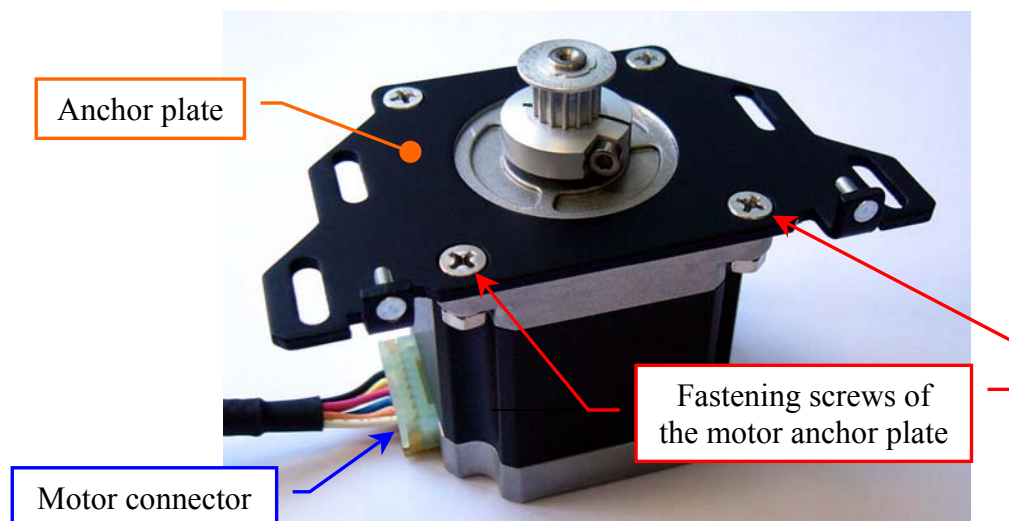

Fig. 87 – Satellites Mov. Reagents Plate Motor anchor plate
5. Unscrew the four fastening screws of the Satellites Mov. Reagents Plate Motor anchor plate (**Fig. 87**) and take out the anchor plate from the motor.
9. Position the anchor plate on the upper plane of the new motor as showed in **Fig. 87** and screw its four fastening screws.